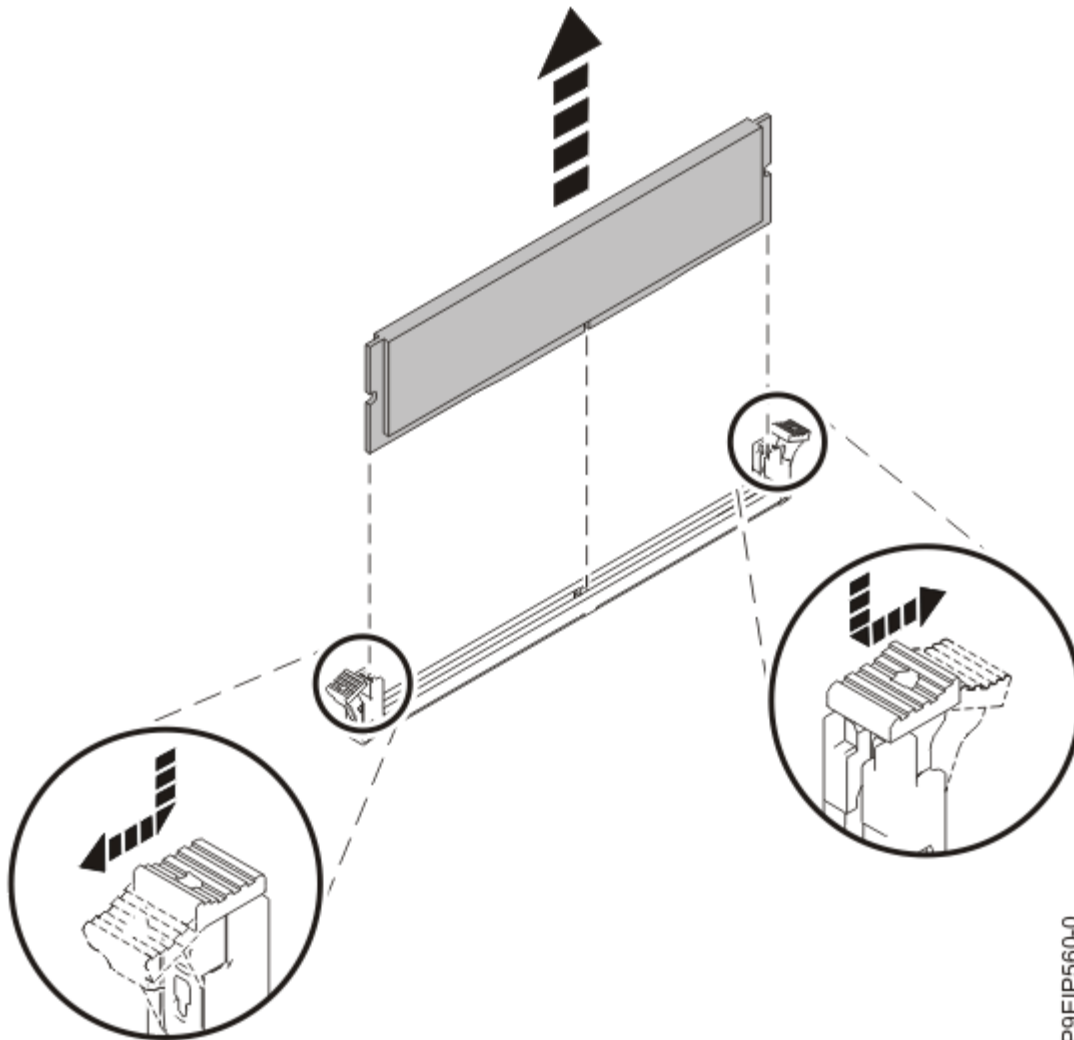

Figure 13. Removing the memory
- b) Unlock the memory DIMM by simultaneously pushing the locking tabs away from the memory DIMM, in the direction that is shown in Figure 13 on page 18. Be sure to unlock both tabs at the same time. The lever action of opening the tabs pushes the memory DIMM out of the slot.